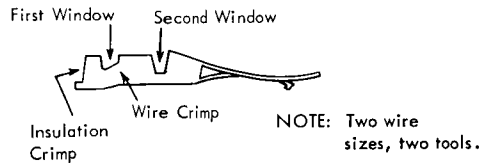

Figure 51. Open-Wire Connector Terminal
Figure 51 illustrates a typical AMP terminal. To crimp this type of terminal in the AMP nonratchet tool, proceed as follows:
4. Insert the stripped wire into the terminal so that the insulation ends in the first window and the wire ends in the second window (Figure 51).